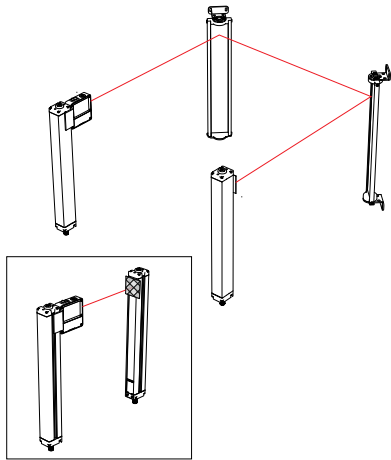

Figure 27. Optical alignment using the LAT-1-LP
**Note:** A LAT-1-LP Laser Alignment Tool is very helpful by providing a visible red dot along the optical axis. See Figure 27 on page 41 and Banner Safety Applications Note SA104 (p/n 57477) for further information.